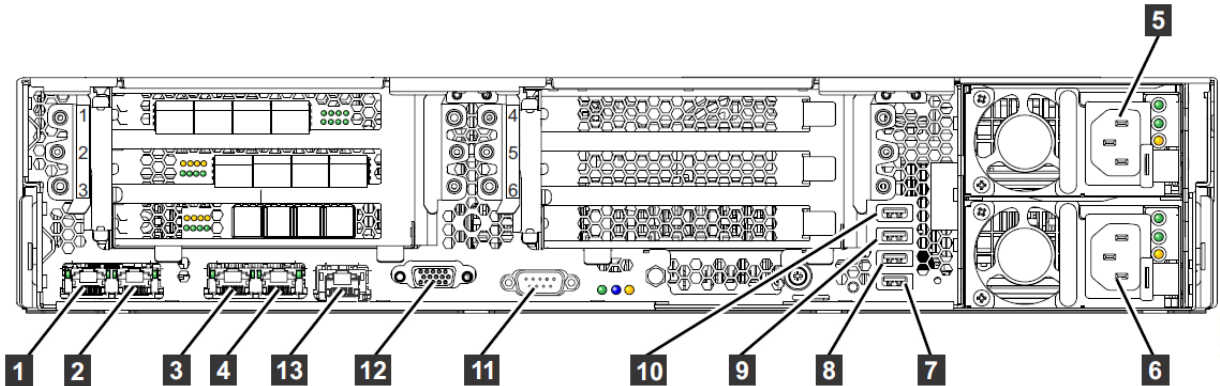
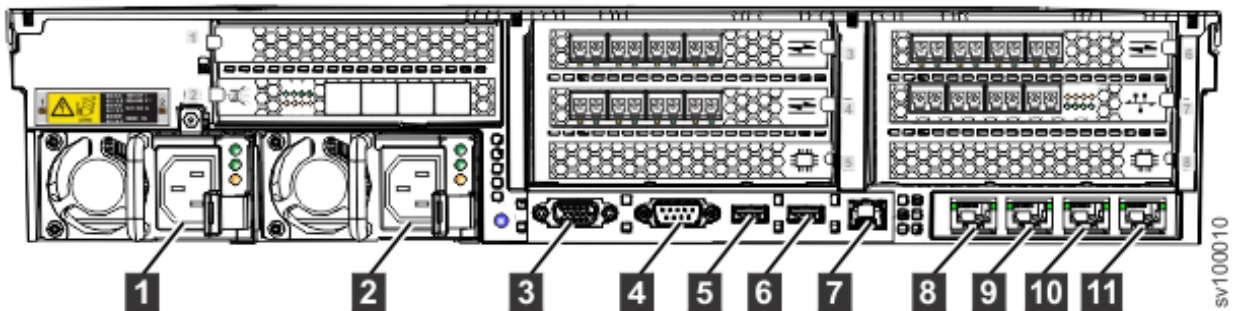

Figure 7. DH8 rear view of connectors
Figure 8. SV1 rear view of connectors
28. If you are going to remove the node from the rack then carefully label the port number position of each Fibre Channel cable, Ethernet cable and SAS cable; then disconnect the Fibre Channel cables, Ethernet cables and SAS cables from the rear panel. See Figure 7. DH8 rear view of connectors Figure 7. DH8 rear view of connectors or Figure 8. SV1 rear view of connectors.
__ 29. Disconnect the power cords from the rear panel. See Figure 7. DH8 rear view of connectors or Figure 8. SV1 rear view of connectors.
- __ 46. Reconnect the cables to the DH8 or SV1 node, ensuring that each data cable is reconnected to the same port from which it was removed. See Figure 7. DH8 rear view of connectors or Figure 8. SV1 rear view of connectors.